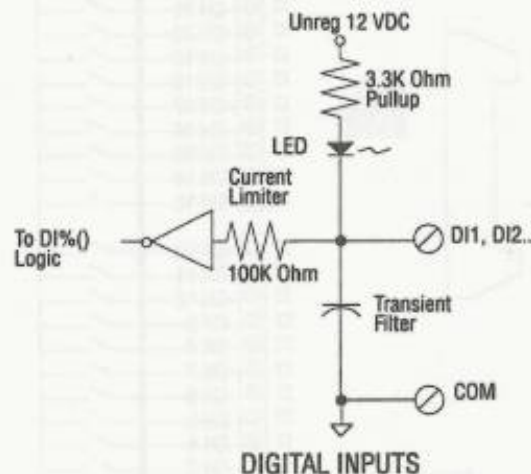

FIGURE 3.4A DIGITAL INPUT SCHEMATIC
The RUG6 protected field board has 16 dry contact or logic compatible digital inputs. RUG7 and RUG8 models have 8 channels each. Each digital I/O expansion board has 32 digital inputs. Background software samples each digital input whenever BASIC accesses the DI%() array. All digital inputs are mapped into DI%() beginning with DI%(1) and continuing until the array dimension is exceeded. A contact closure or low logic level on the digital input will result in a 1 in DI%(); an open contact or logic high value will result in a 0 value in DI%(). Figure 3.4A presents the RUG6 digital input schematic. Consult Figures 3.0A, 3.0B, and 3.0C for digital inputs examples for RUG6, RUG7, and RUG8, respectively. Figure 3.4 B presents example connections for expansion digital inputs. Note that all units have one LED per channel and 100K ohm isolation resistors. The resistors protect the inputs from voltage reversal and excessive voltage.